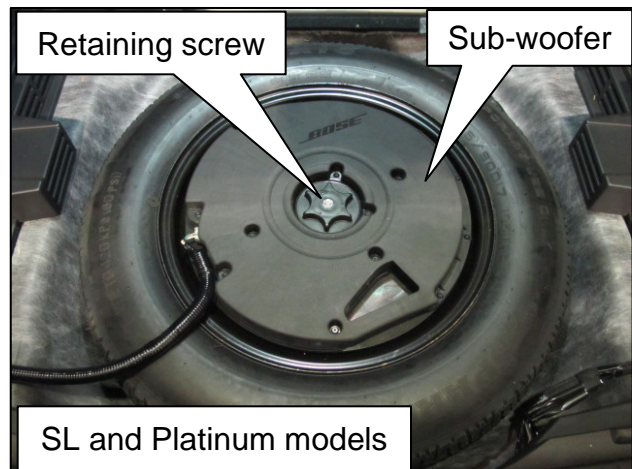

Figure 8
- For SL and Platinum models, lift the subwoofer assembly upward from the spare tire and set it to the driver's (LH) side (Figure 8).